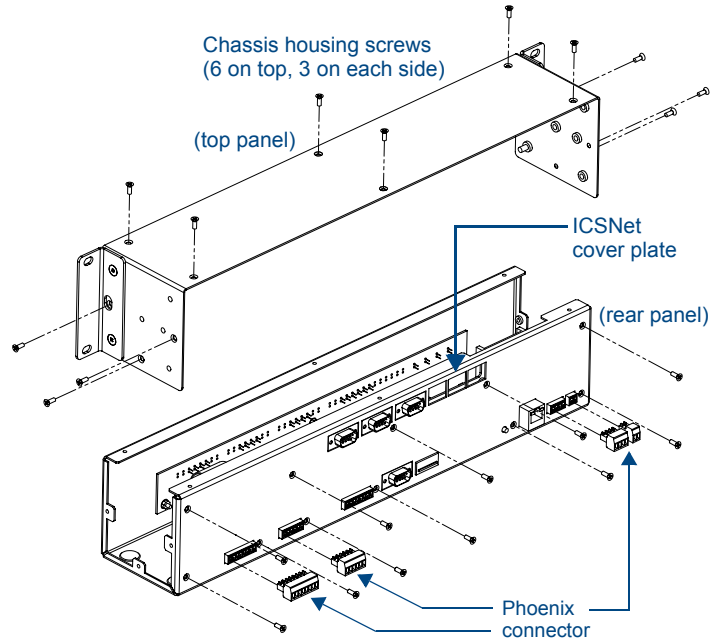

FIG. 3 Chassis and motherboard removal overview for NI-2100 and NI-3100 units
1. Carefully detach all connectors from the rear of the unit (see FIG. 3).
2. Remove the chassis housing screws from both the sides and top of the NI-2100/3100 Controllers, as shown in FIG. 3 by using a grounded screwdriver.
1. Outside the chassis, remove all Phoenix connectors. (FIG. 3)
3. Outside the chassis, remove the eleven screws securing motherboard to chassis, and carefully remove the motherboard. (FIG. 3)
2. Fasten with 11 mounting screws. See FIG. 3.
2. Insert and secure the chassis housing screws back into their respective locations on both the sides and top of the NI-2100/3100 Controllers, as shown in FIG. 3 by using a grounded screwdriver.
- Re-install the mounting brackets by using a grounded screwdriver to resecure the two sets of screws securing these brackets (FIG. 3).